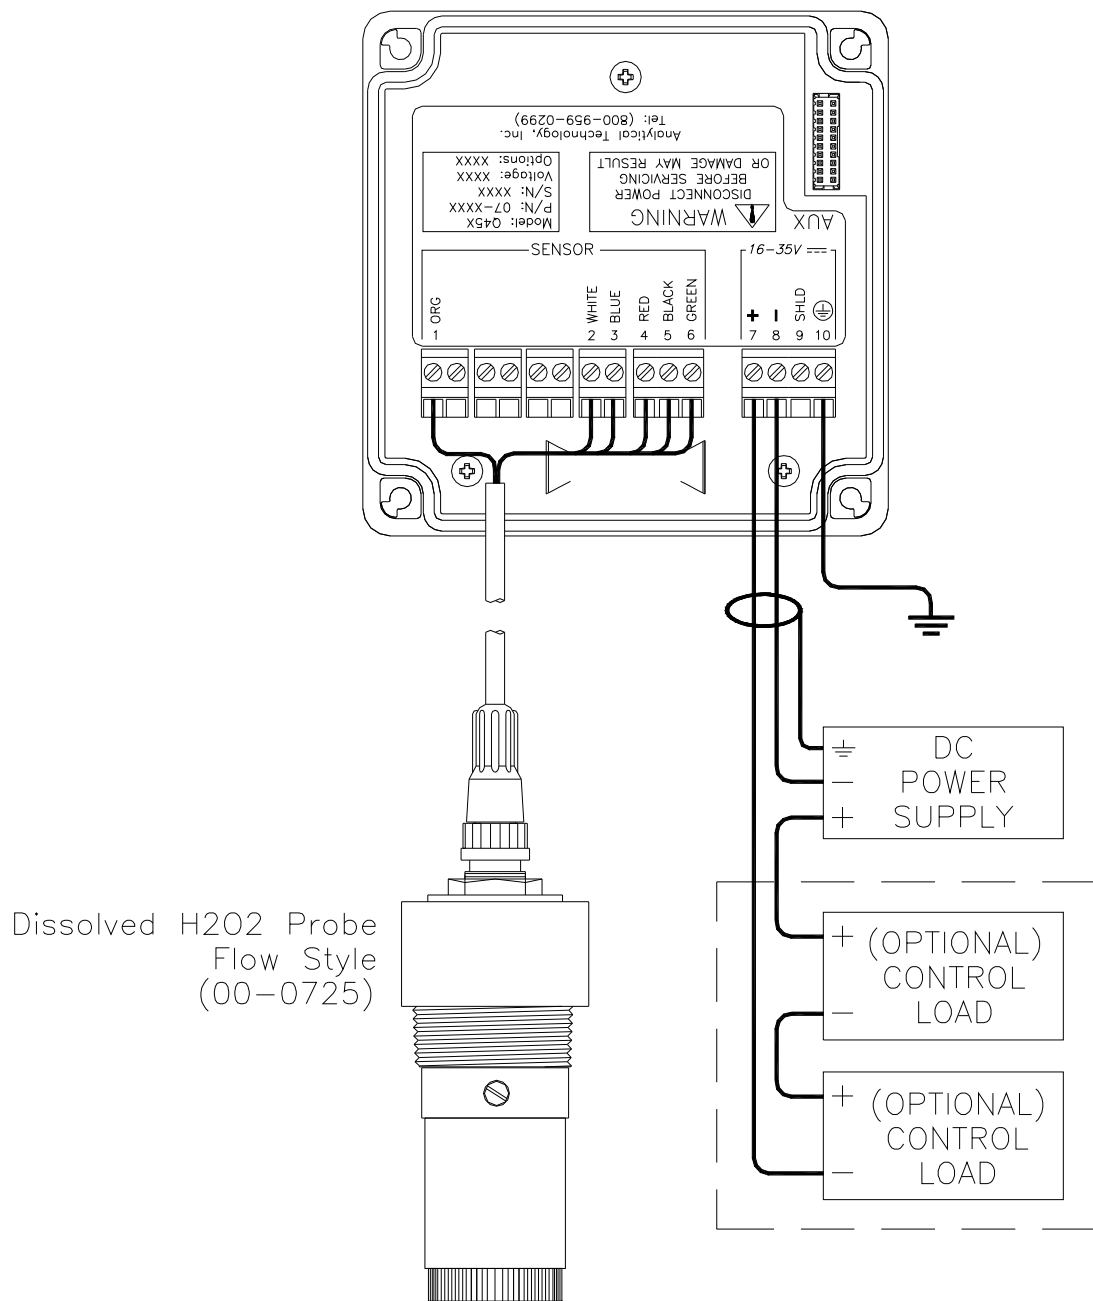

Figure 10 - Loop-Power Connection, Q45 Transmitter
1. Use wiring practices that conform to all national, state and local electrical codes. For proper safety as well as stable measuring performance, it is important that the earth ground connection be made to a solid ground point from terminal 12 (Figure 10). The AC power supply contains a single ¼-Amp slo-blo fuse on the **H** Terminal. The DC powered version contains a 250 mA fuse. The fuse is located adjacent to **TB5** and is easily replaceable.
In the two-wire configuration, a separate DC power supply must be used to power the instrument. The exact connection of this power supply is dependent on the control system into which the instrument will connect. See Figure 10 for further details. Any twisted pair shielded cable can be used for connection of the instrument to the power supply. Route signal cable away from AC power lines, adjustable frequency drives, motors, or other noisy electrical signal lines. Do not run sensor or signal cables in conduit that contains AC power lines or motor leads.
Sensor connections are made in accordance with Figure 10. The sensor cable can be routed into the enclosure through one of cord-grips supplied with the unit. Routing sensor wiring through conduit is only recommended if a junction box is to be used. Some loose cable is needed near the installation point so that the sensor can be inserted and removed easily from the flowcell.